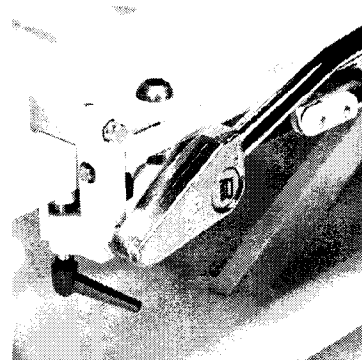

Figure 2
- 3 Lock the two vices (tightening levers) on the side boards and make sure they are locked properly (see figure 2).